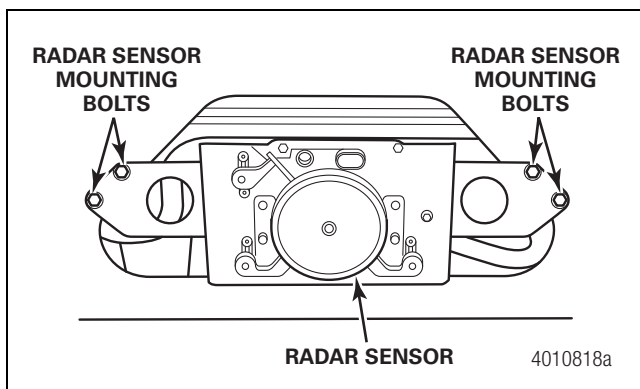

Figure 2
6. Remove the four mounting bolts from the radar sensor bracket and remove the bracket. Figure 2.